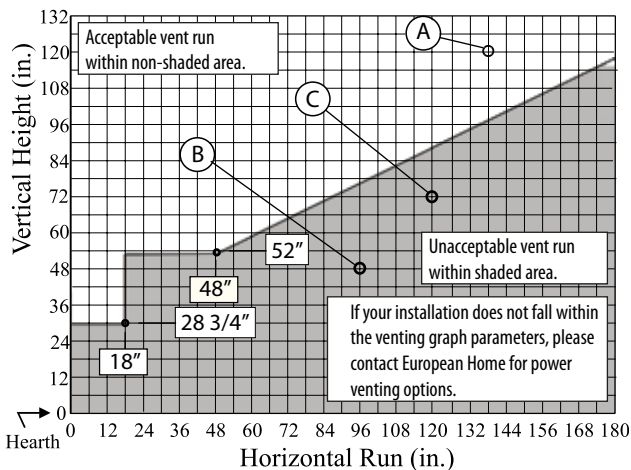

Figure 17. *Rear Vent Venting Graph for wall mounted terminations.*
- Venting runs *must* fall within the limits set by the venting graphs, see *Figure 17*.
Measure the vertical height from the fireplace hearth to the center of the termination and the horizontal run from the fireplace flue collar to the wall flange of the termination. Plot on the Venting Graph *Figure 17* with an 'X'.
Figure 17b. *Rear vented, wall mounted multi-elbow termination installation. Installation for Vista 38 must have a minimum vertical rise of 52". The vent run must comply with the Venting Graph for rear vent, wall mounted terminations, Figure 17.*